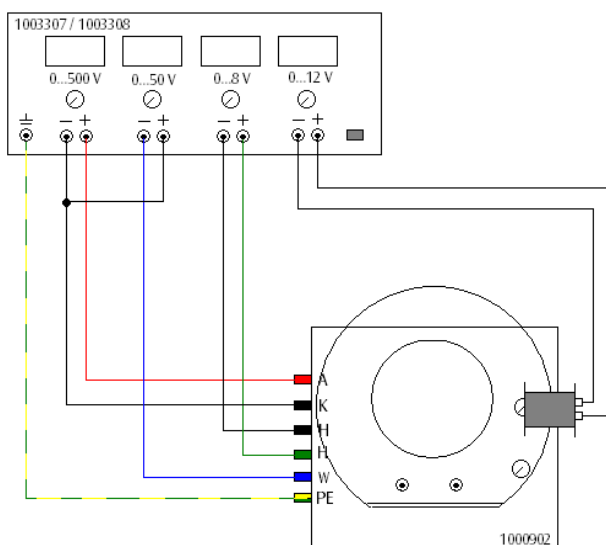

Fig. 5 Magnetic deflection of the electron beam.
- Attach a coil to the right side of the metal ring as in fig. 5.
- Set up the experiment as in fig. 5.